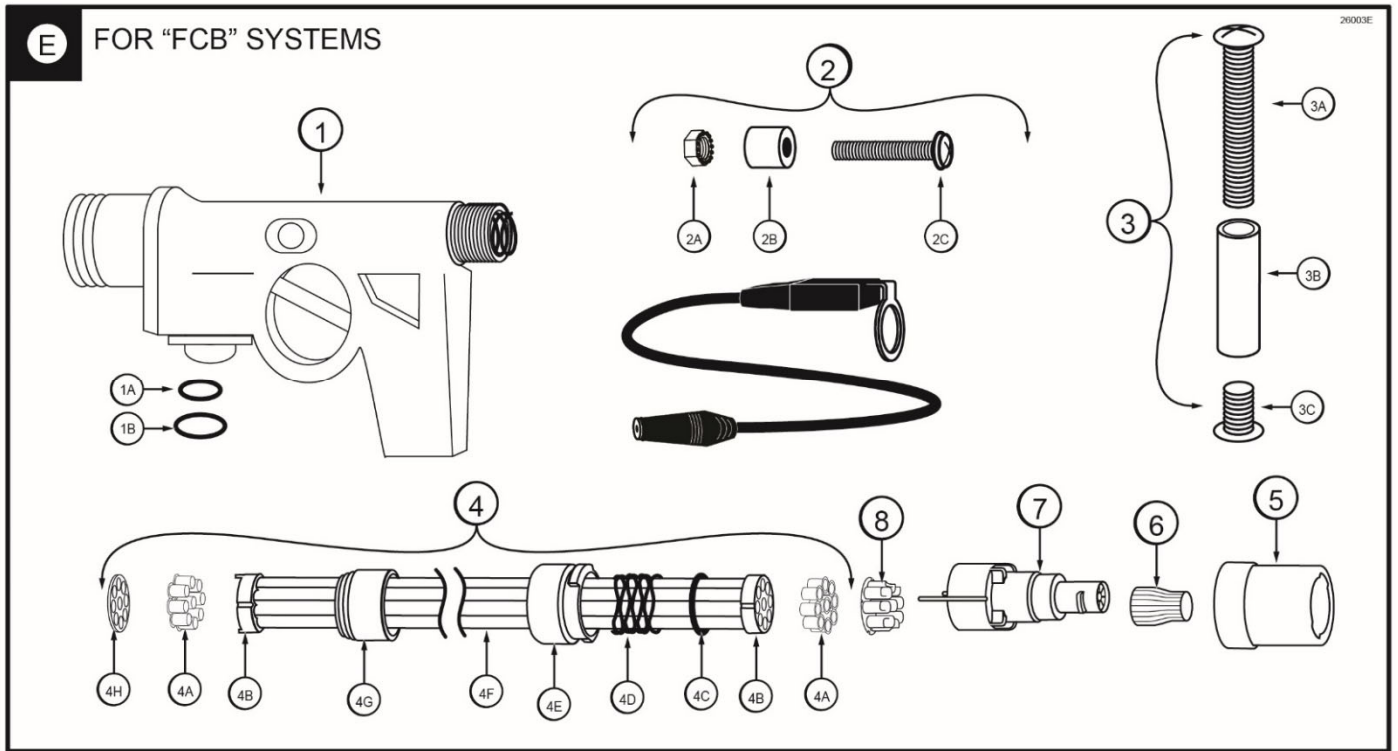

Figure 4E
**“FCB” Door Spout Assembly and Related Parts (See Figure 4E)**